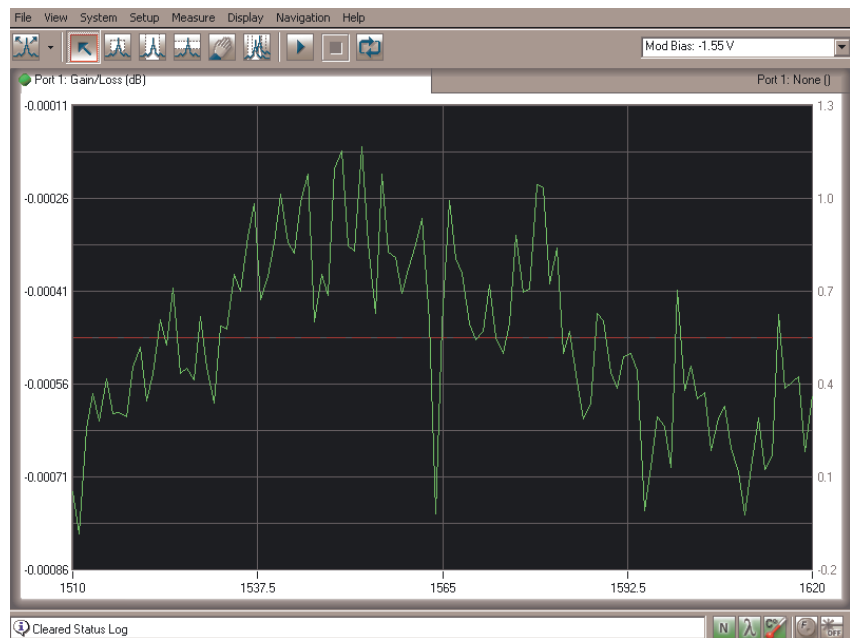

Figure 3 Sample Gain / Loss trace
- a First check the measured Gain/Loss curve. (For guidance in using the graphical user interface, please refer to “Defining Traces” on page 45.) Since the normalization and measurement are made with the same connection, the ideal displayed loss should be 0 dB and a measurement curve should look similar to Fig. 3. The variation from 0 dB is a measure of the noise and repeatability of the loss measurement and should be within a tolerance of about ± 0.1 dB (with option 400, ± 0.02 dB).